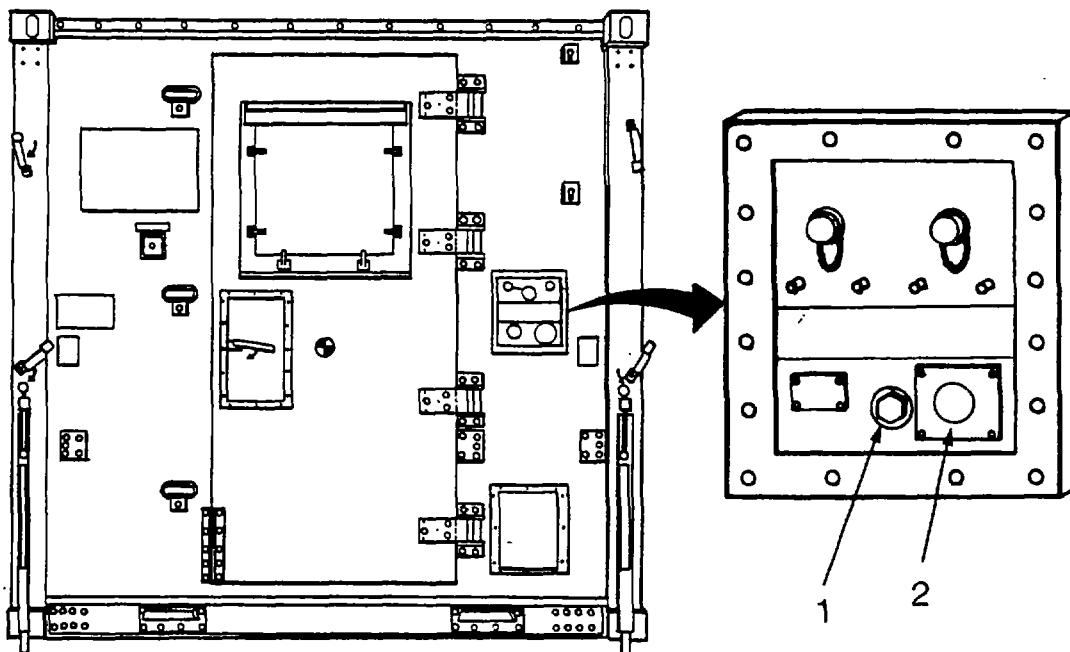
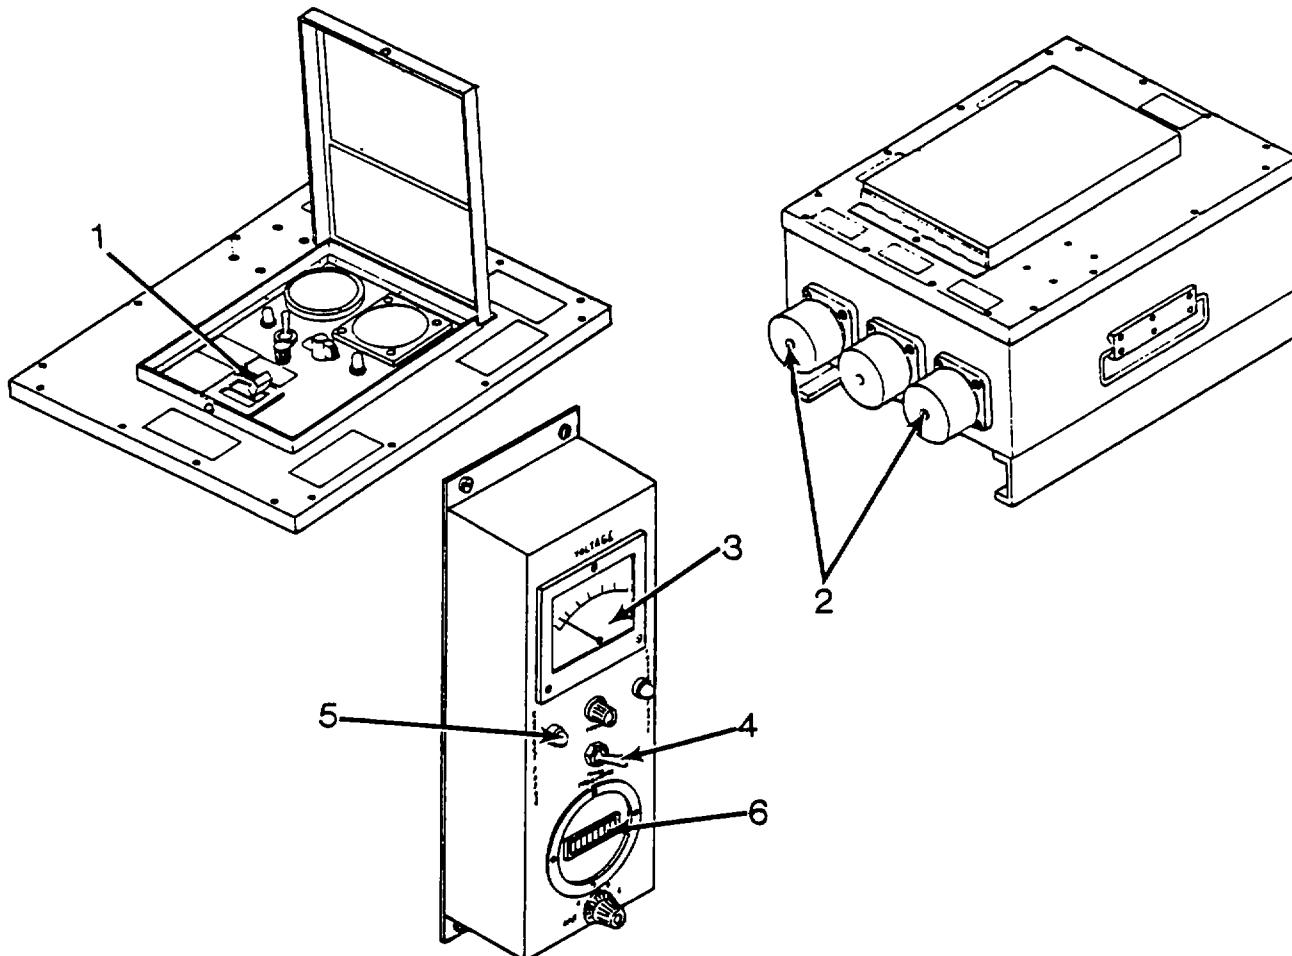

Figure 2-16. Power Cable Connections to Press Section Shelter
Figure 2-17. Power Distribution Box Controls and Indicators
- (1) Install grounding rod.
- (2) Verify that main circuit breaker CB1 (1) on the Power Distribution Box is in the OFF position. Refer to Figure 2-17 for location of controls and indicators on Power Distribution Box and phase monitor meter.
- (3) Connect grounding rod grounding line to shelter ground lug (1, Figure 2-16). Connect power cable to the Press Section receptacle (2, Figure 2-17) on the Power Distribution Box and to the Press Section shelter power input receptacle (2, Figure 2-16).
- (4) Notify Module C operator that you have completed connecting your shelter to the Power Distribution Box. Wait until Module C supervisor has set main circuit breaker CB1 on Power Distribution Box to ON position before performing step (5).
- (5) Read voltage meter (3, Figure 2-17) on phase monitor meter. Voltage must read between 110 and 120 Vac on phases A, B, and C.
- (6) Push down test phase switch (4). Correct phase lamp (5) should light.
- (7) Read frequency meter (6). Frequency must read 60 ± 1.0 Hz on phases A, B, and C.
- (8) Place all circuit breakers and switches on the Power Distribution Panel inside the shelter in the ON position.
- (9) Install flexible duct between air conditioner assembly vent and rear shelter wall.